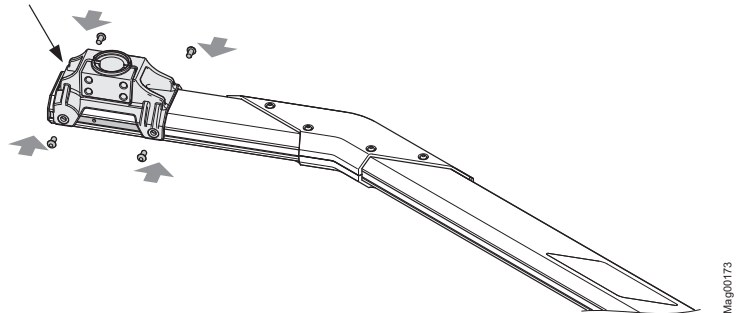

Fig. 28: Installing standard Vario-flange
18. Attach the flange on the other side of the barrier boom. Observe position of the two slot nuts and the additional sheet. The shorter protrusion of the flange must point towards the barrier boom end. → See page 67, Fig. 28.